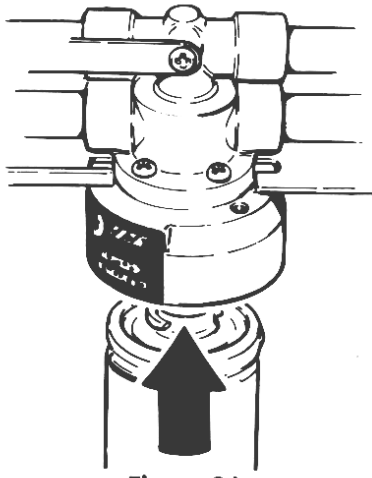

Figure 3A
- 5. Orient 1 of the raised blisters on the rim of the new cartridge with the black and white head label. Remove protective wrapping and insert the cartridge straight up into the ring. (Make sure CV cartridges are installed on the Quad System and XCV cartridges are installed on the Tri-Pack System. (Figure 3A)